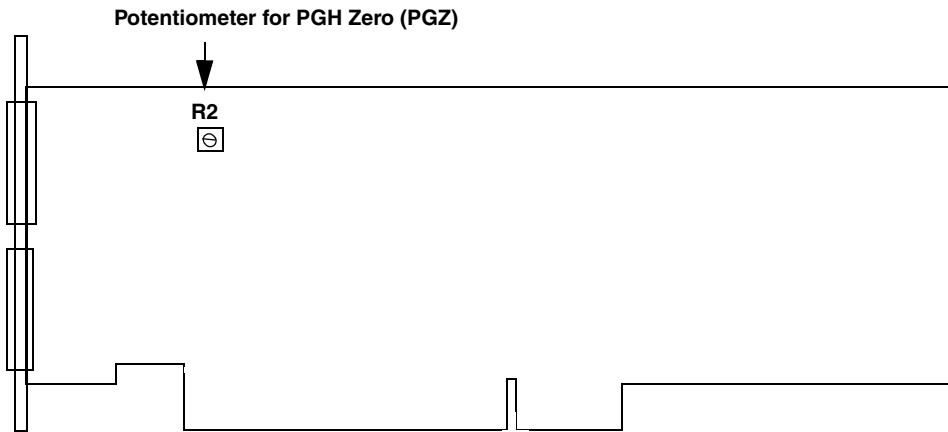

Figure 77: Location of Potentiometer R2 on the DT3016 Board
2. Physically adjust potentiometer R2 (labelled PGZ) on the DT3016 board until the display reads 0.0000 V (0.001 V). Figure 77 shows the location of this potentiometer.